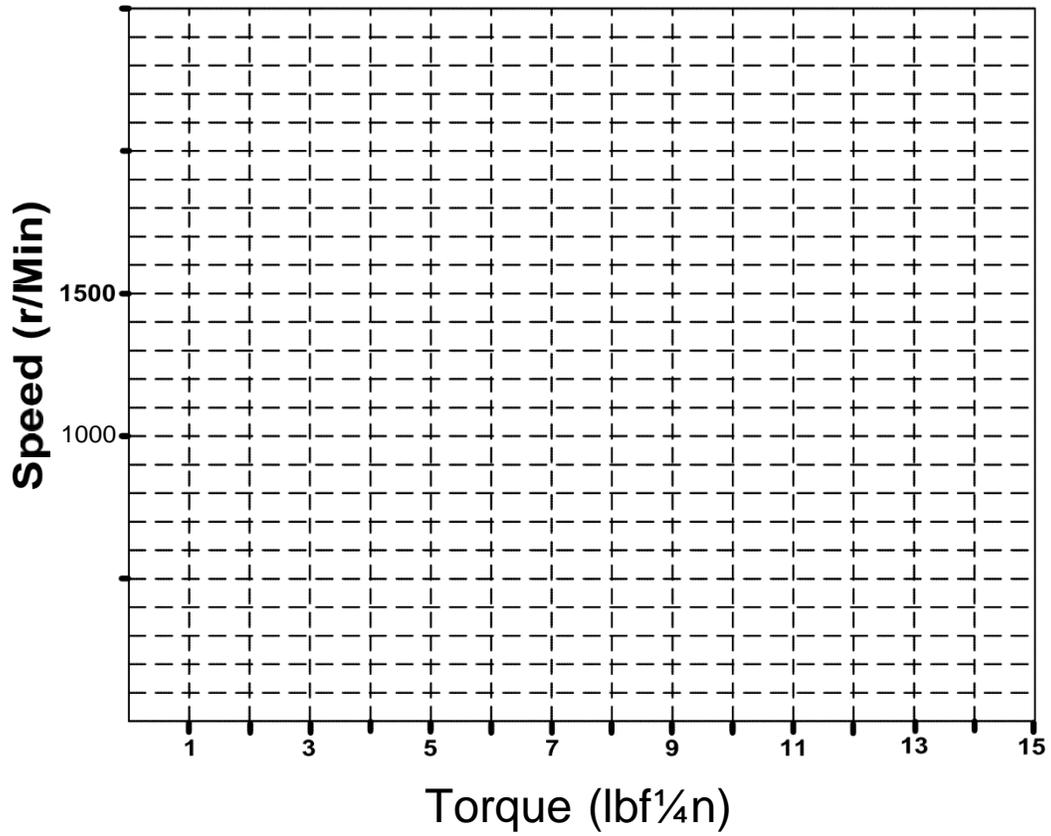

FIGURE 11.14
Step 8: a) Plot the recorded motor speed values from Table 11-3 on the graph of Figure 11.14.